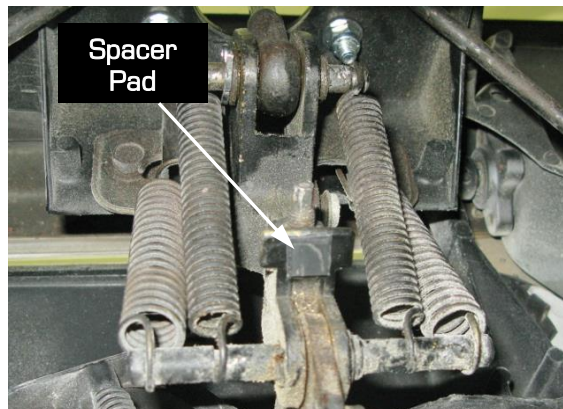

Figure 16 – Install Square Spacer Pad
17. Install the provided square spacer pads to the headlight door assembly on both sides of the vehicle (Figure 16). Make sure you clean the area with lacquer thinner or alcohol on the headlight assembly so the square pad will stick to the bracket.